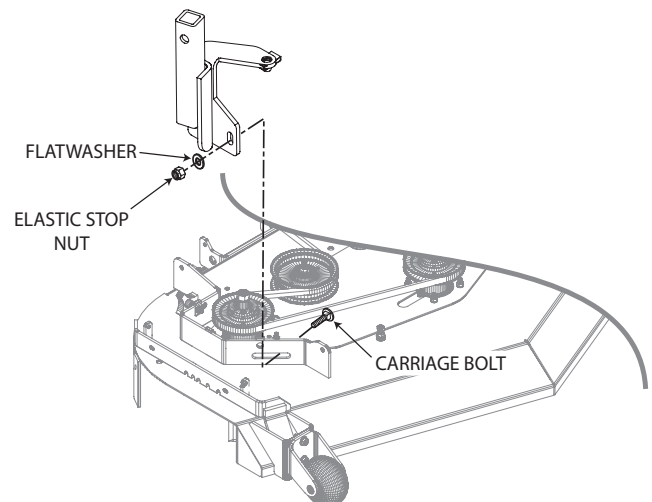

Figure 2-3. Blower Mounting Post Installation
6. Install the blower mounting bracket to the deck using carriage bolts (p/n 04003-11), lockwashers, and nuts. Do not fully tighten the hardware at this time. See Figure 2-3.